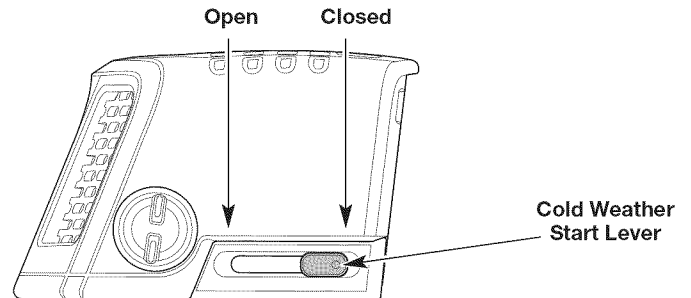

Fig. 10
**IF COLD...** In cold weather (below 40°F), move the cold weather start lever to the **Closed** position (Fig. 10). **DO NOT** move the cold weather start lever to the **Closed** position if the temperature is above 40°F.
**IF COLD...** In cold weather (below 40°F), move the cold weather start lever back to the **Open** position (Fig. 10).